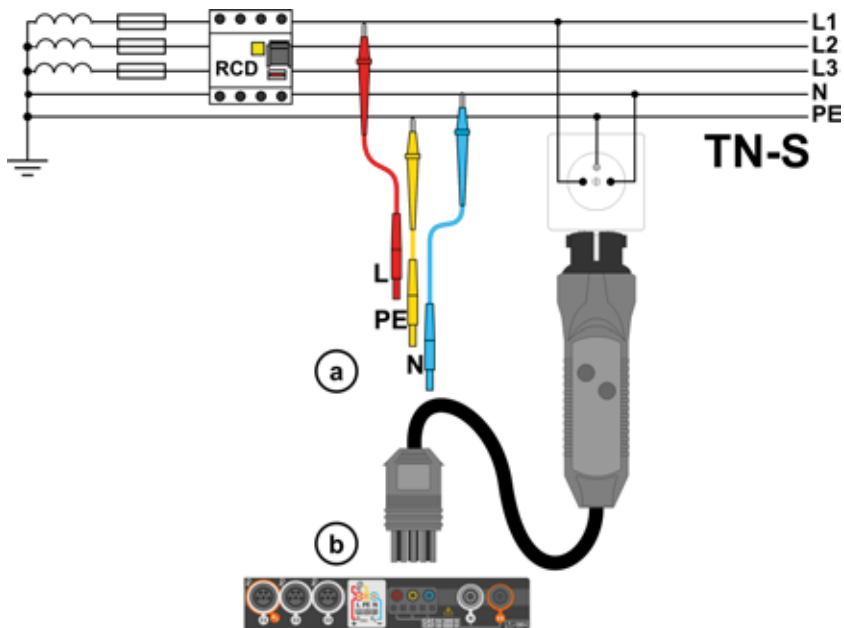
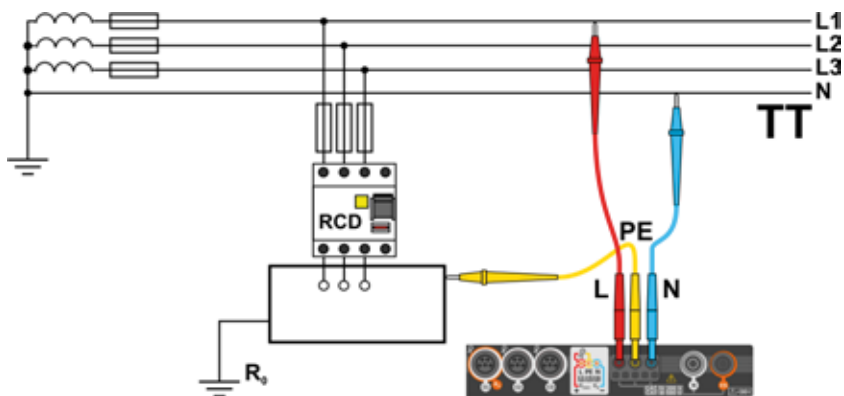
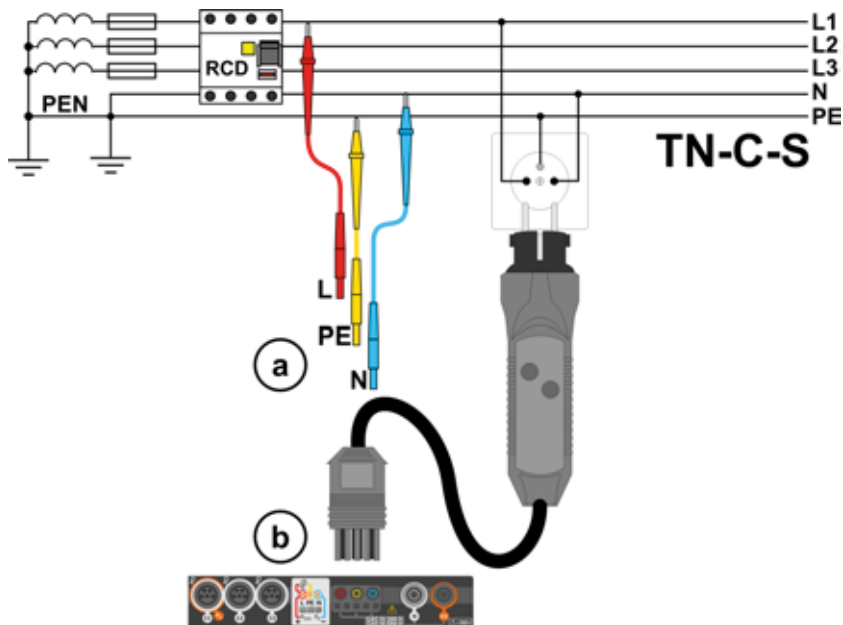

Fig. 3.3 Measurement in the TN-S system
Fig. 3.4 Measurement in the TT system
Fig. 3.5 Measurement in the TN-C-S system
- ① Connect test leads according to Fig. 3.3 , Fig. 3.4 lub Fig. 3.5.